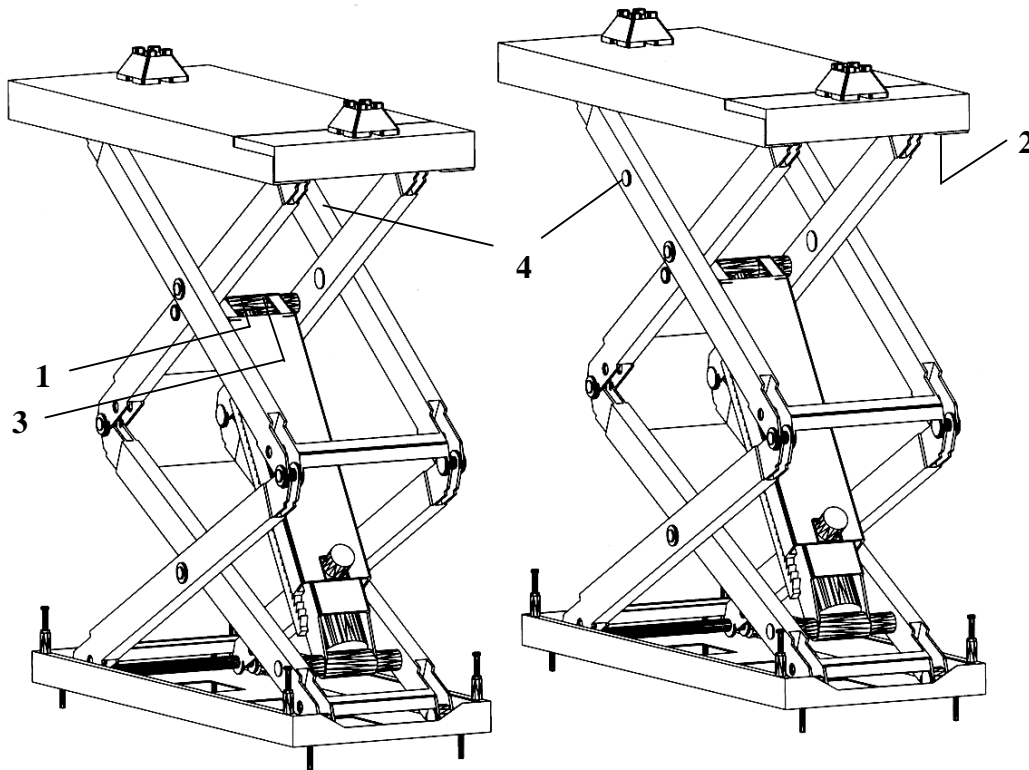
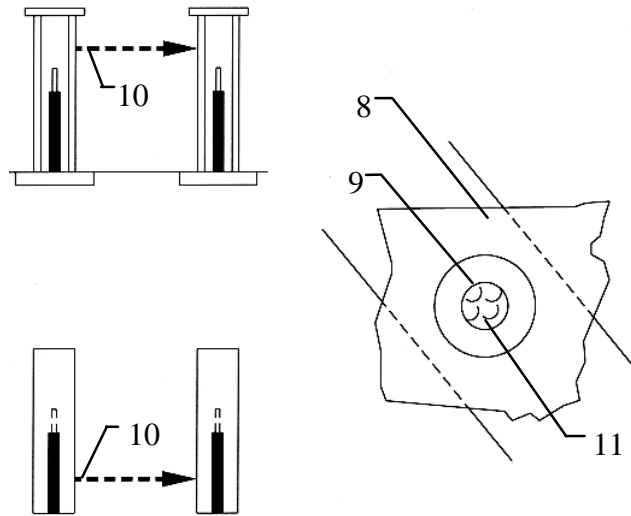

Figure 10 - Designation of the limit switches
Figure 11 - Photocell Test
The lift comes equipped with various preset limit switches for monitoring the safety functions and final positions. The control functions of the limit switches are described below. Figure 10 shows the location and description of the limit switches on the lift. The connection diagram for the control and safety switches is illustrated in the Index (**Section 2**).
- Check the photocell monitoring device (Figure 10, Item 4) for correct performance. This is done using a sheet of cardboard or paper (approx. 4" x 4" (100 x 100mm) see Figure 11, Item 8), with a hole of approx. 1" (25mm) in diameter (Figure 11, Item 9). Raise the lift until the photocell and the reflector are no longer blocked by the scissor arms. In this position, place the hole of the sheet of cardboard or paper over the centre of the reflector (Figure 11, Item 11).